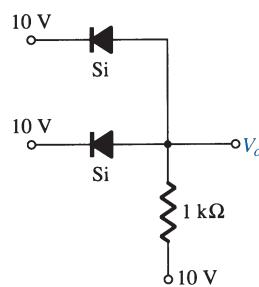

FIG. 166
20. Determine the level of V_o for the gate of Fig. 166.